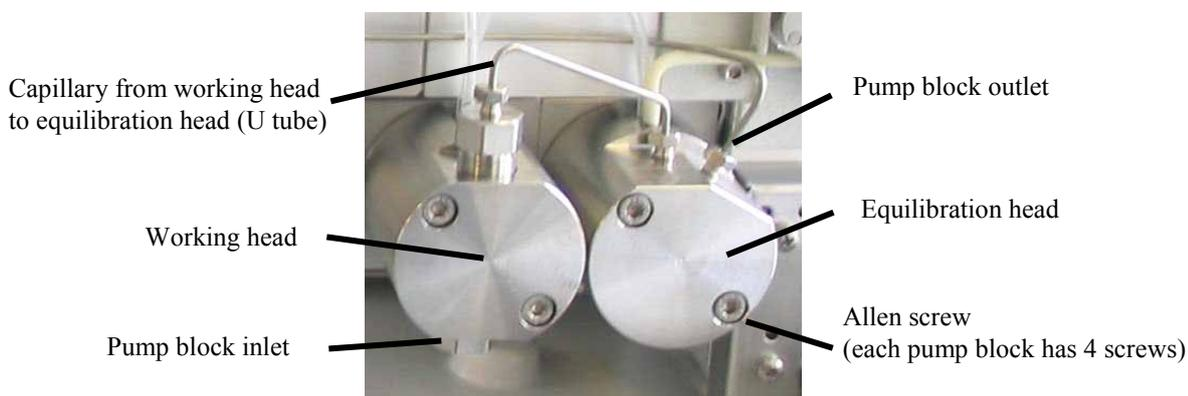

Fig. 44: Installed pump heads
4. Loosen the Allen screws on the two pump head (→ Fig. 44) and carefully remove the pump head.